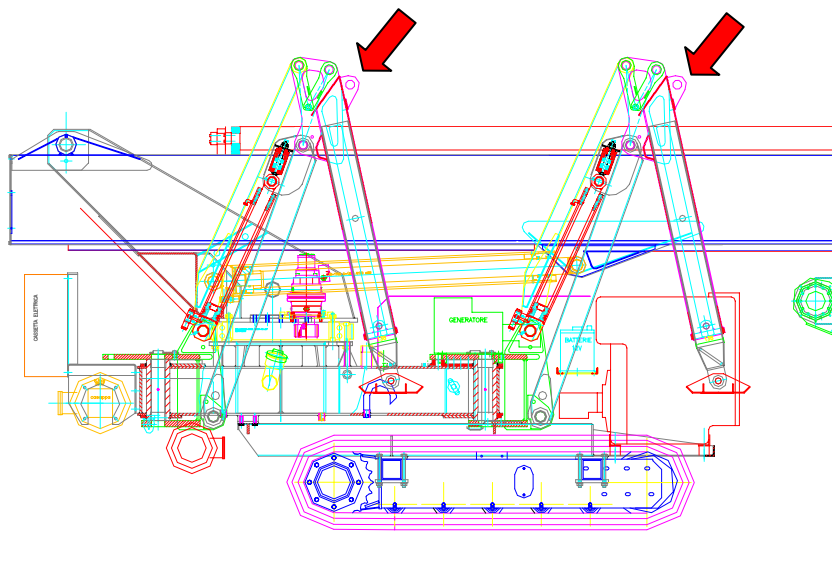

Fig. 3.1
- hook the 4 eyebolts on the top of the stabilizing legs with proper loading ropes (min half weight each) (Fig. 3.1)